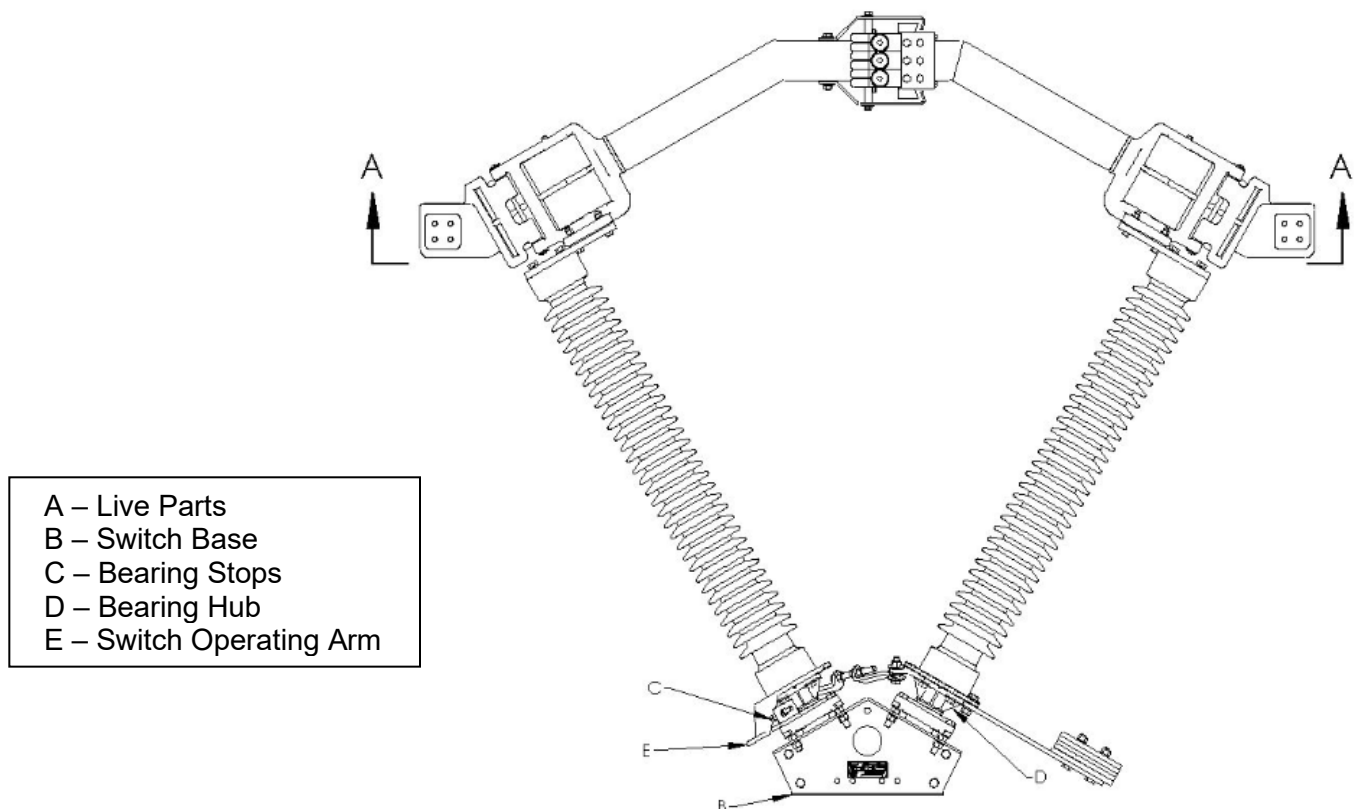

Figure 1: Typical EC-2V Switch Pole Assembled & Common Terminology
6. **Using main sling attachment to the switch base only** and auxiliary sling attachment to keep the switch upright, mount the switches on the structure as shown on the plan view of the operating mechanism drawing. Be sure to orient each pole with the switch operating arm in the proper position. When lifting, positively lock the switch closed. This can be done by using clamps, wire, or straps to keep the switch operating arm ("E" on **Figure 1**) hard against the bearing stop.